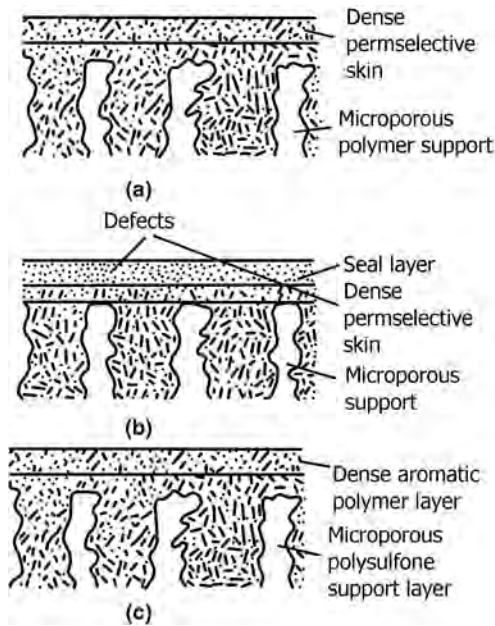

FIGURE 18.47 Asymmetric composite membrane.
- Figure 18.47 illustrates the structures of asymmetric composite membranes.